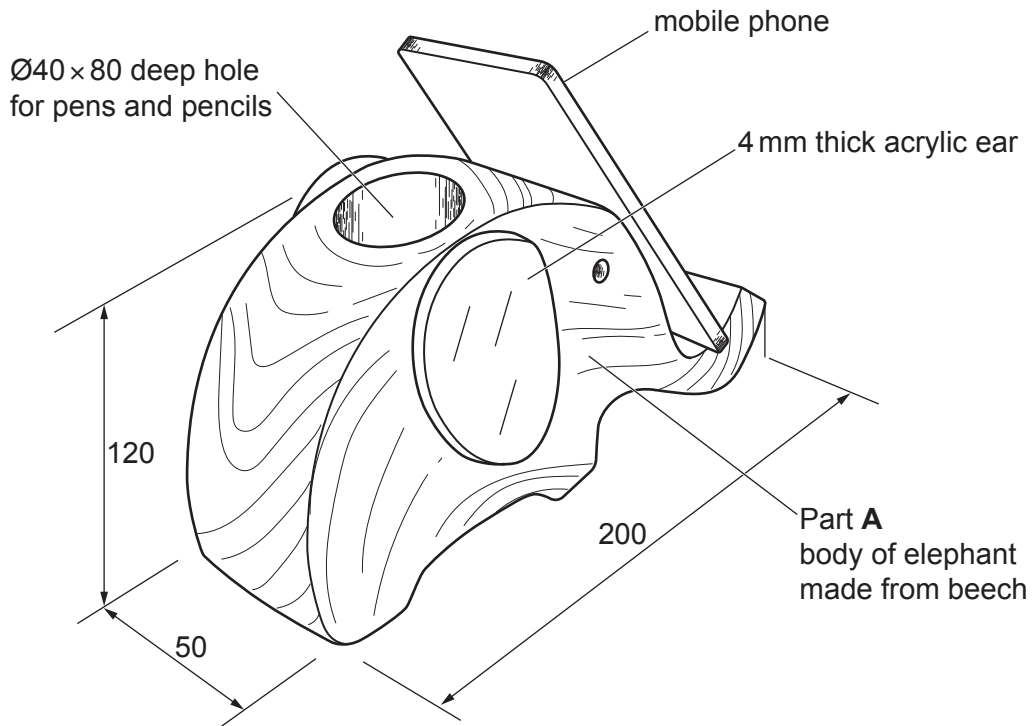

Fig. 1.1
- 1 Fig. 1.1 gives details of a desk tidy which is to be made in a school workshop.